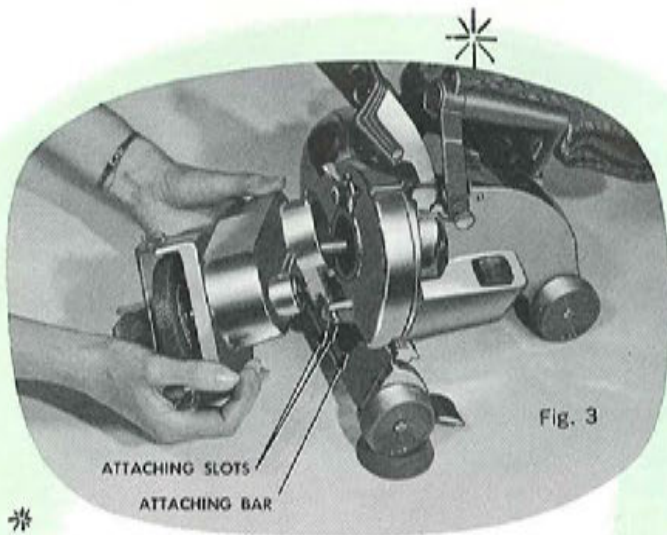

Fig. 3
**STEP 3:** Raise the Floodlight Hood. Hold the Handi-Butler so the Attaching Slot is on the Attaching Bar which is just below the Belt Drive Shaft. (Figure 3). The Belt Drive Shaft should enter the large round opening and pass through the loop formed by the belt.
**STEP 5:** Turn the Belt Lifter Lever to the "ON" position and the unit is ready for operation. Rubber cups, which are provided, should be placed under the front wheels to steady the unit (figure 3).